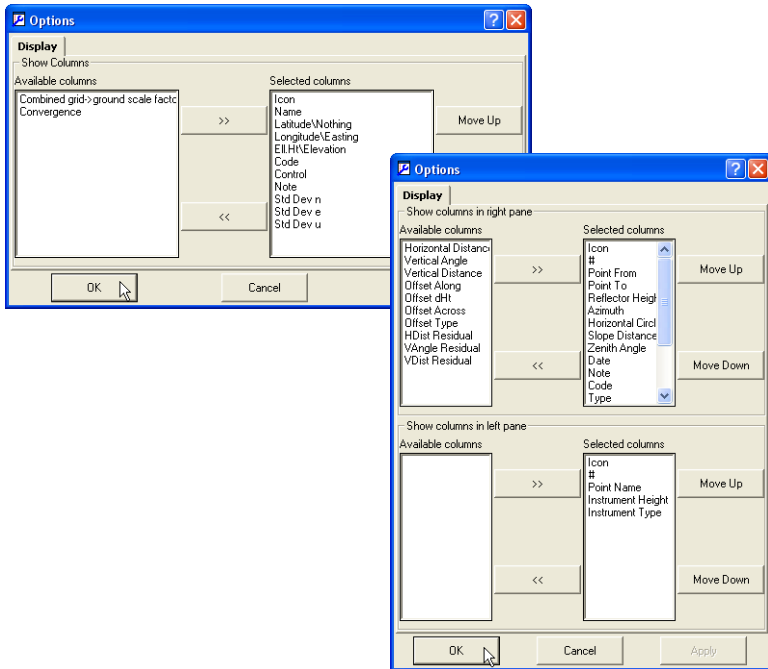

Figure 4-60. Example Tab Options for Points and TS Obs
2. Select and arrange the desired columns (Figure 4-60 on page 4-61).